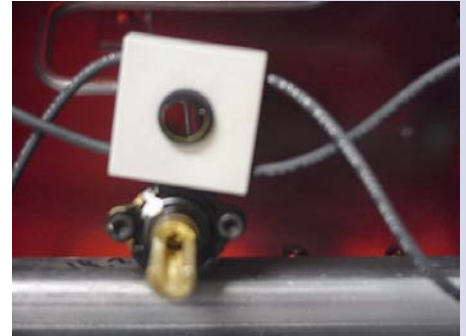

Figure 12
3. Remove igniter switches. (Section 3). (Figure 12)